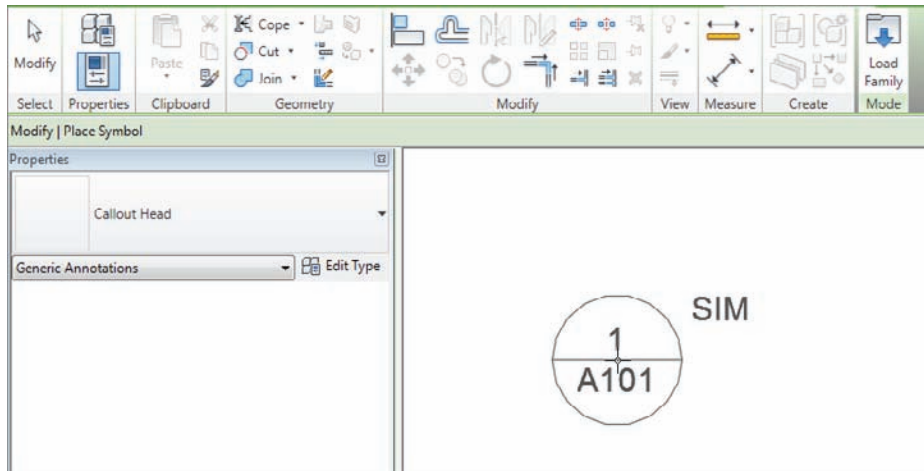

FIGURE 11.47 Placing the callout head
6. In the Type Selector, select Callout Head, as shown in Figure 11.47.
7. Place the callout head into the view, as shown in Figure 11.47.